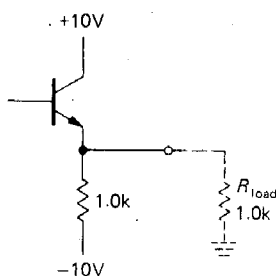
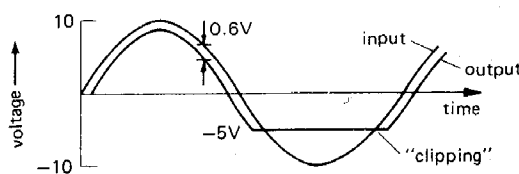

Figure 2.8. An *npn* emitter follower can source plenty of current through the transistor, but can sink limited current only through its emitter resistor.
Figure 2.9. Illustrating the asymmetrical current drive capability of the *npn* emitter follower.
1. Notice (Section 2.01, rule 4) that in an emitter follower the *npn* transistor can only "source" current. For instance, in the loaded circuit shown in Figure 2.8 the output can swing to within a transistor saturation voltage drop of V_{CC} (about +9.9V), but it cannot go more negative than -5 volts. That is because on the extreme negative swing, the transistor can do no more than turn off, which it does at -4.4 volts input (-5V output). Further negative swing at the input results in backbiasing of the base-emitter junction, but no further change in output. The output, for a 10 volt amplitude sine-wave input, looks as shown in Figure 2.9.